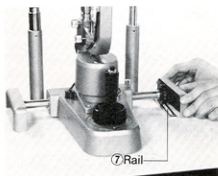

Fig. 15
Next, insert the rail covers⑧ in place, over the rails. Insert the flange, on the base of the cover, between the slight opening which exists between the rail and the surface of the table. (See Fig. 15)